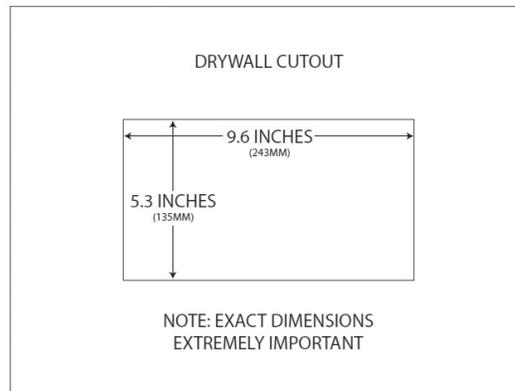

Figure 20
- D. The cutout area for the drywall required to install the TOUCH7 is 9.6" W x 5.3" H x 3.5" D (from the outside wall surface). **Note:** Make sure the cutout is accurate or the cover bezel may not cover any cutting imperfections, see Figure 20.